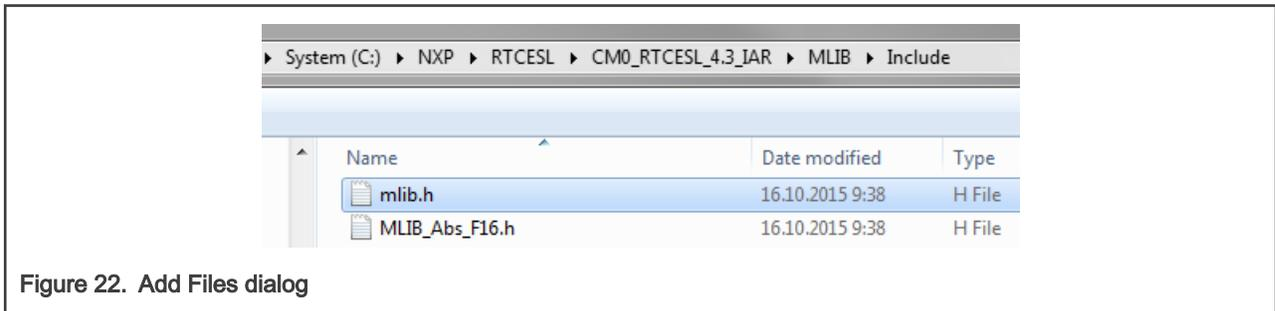

Figure 22. Add Files dialog
- Navigate into the library installation folder C:\NXP\RTCESL\CM0_RTCESEL_4.7_IAR\MLIB\Include, and select the *mlib.h* file. (If the file does not appear, set the file-type filter to Source Files.) Click Open. See Figure 22.